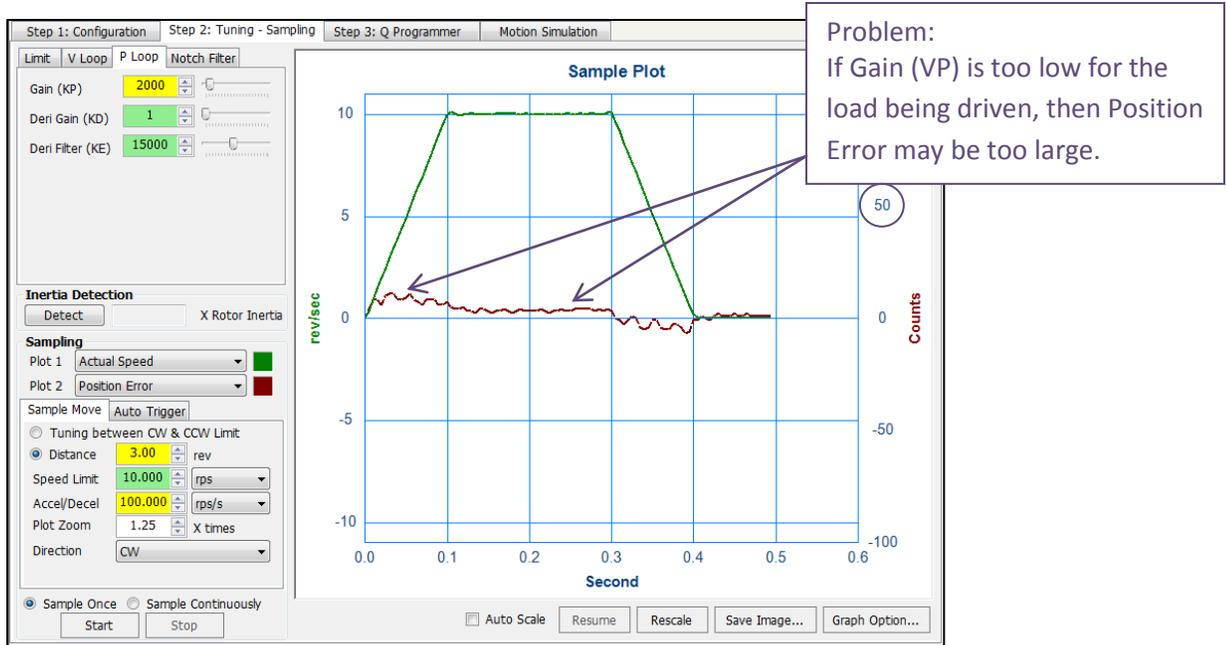
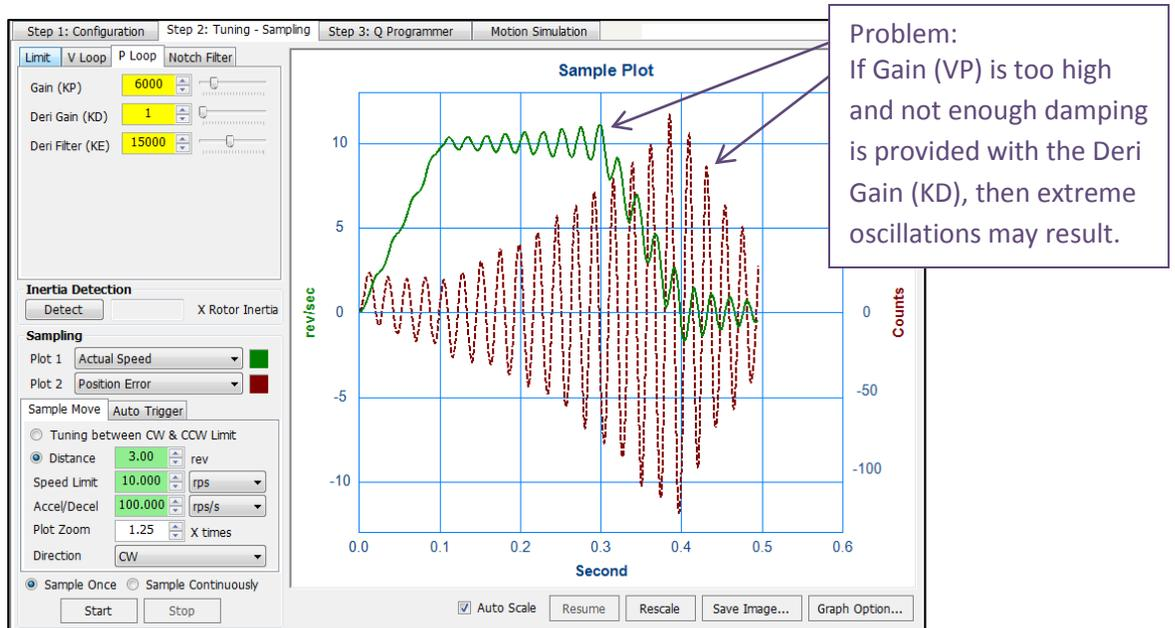

Figure 4a: Position Loop tuning; plot of Actual Speed and Position Error
Figure 4b: Instability created by high KP setting while tuning P Loop
- Set Deri Filter (KE) at default of 15000 and reduce Gain (KP) & Deri Gain (KD) to 1
- Increase Gain (KP) while running sample move in an effort to minimize Position Error (see **Fig. 4a**). Increasing KP too much will lead to instability (see **Fig. 4b**).